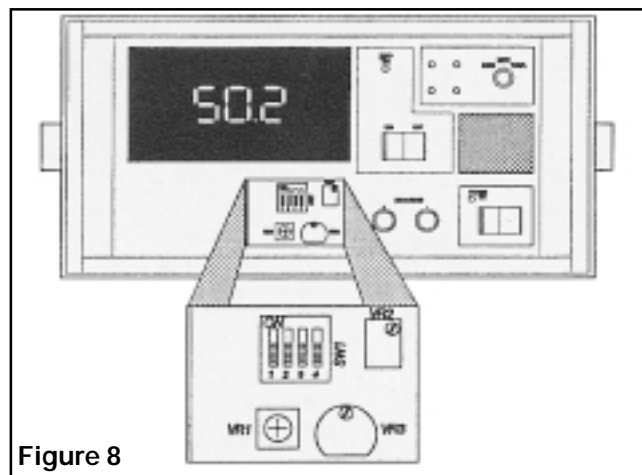

Figure 8
- Slide Adjustment Window to the left to open (See Fig. 8).
- Rotate VR1 to MIN (Fully Counterclockwise) (See Fig. 8).
- Rotate VR1 to MAX (Fully Clockwise) (See Fig. 8).